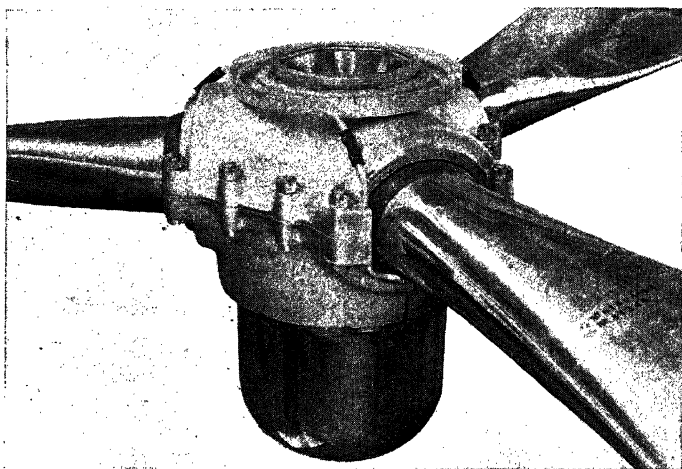
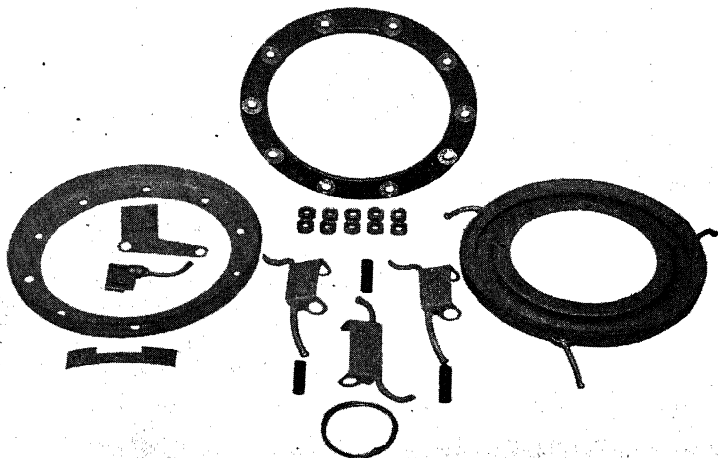

FIG. 37.—De-icer for Hamilton Standard propeller.
FIG. 38.—Details of parts used in the de-icer.
**De-icing Equipment.**—The Hamilton Standard method of preventing the formation of ice on propellers is to feed a de-icing fluid to the surface at the base of each blade. From here it is carried to the blade tip by centrifugal force. Figure 37 shows the de-icer slinger ring and the tubes that lead the fluid to the blades. Details are seen in Fig. 38.